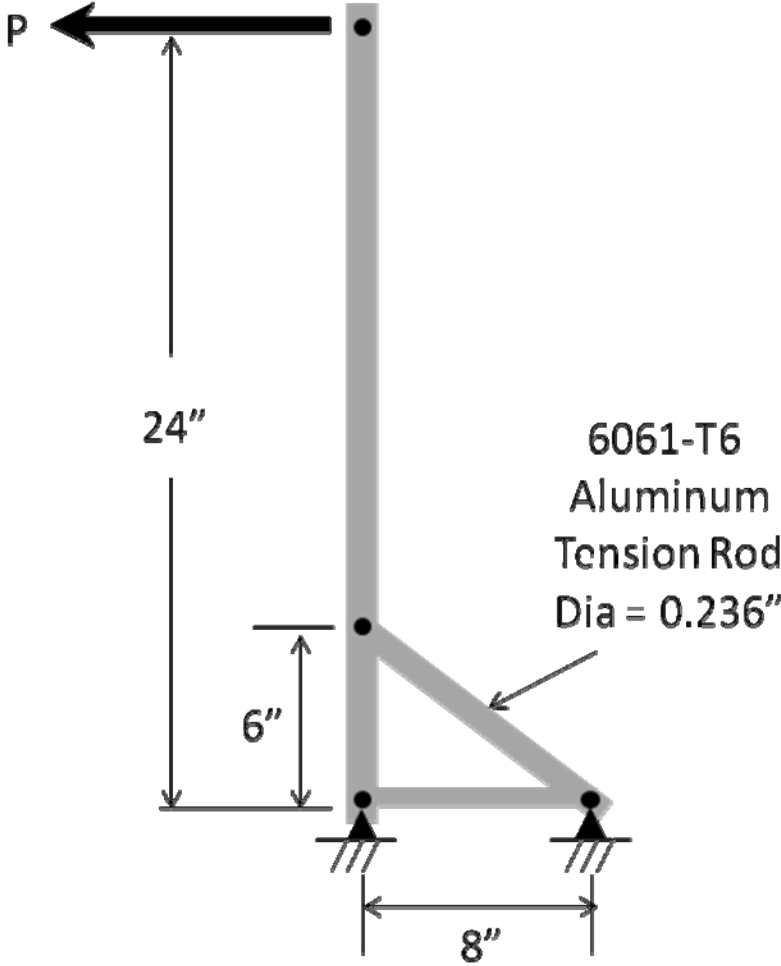

Figure 1: Schematic Illustration of Load Test Frame
1. Apply a load, P, to the simple pin connected test frame, as illustrated in Figure 1, and record the strain induced in the 6061-T6 aluminum tension rod.